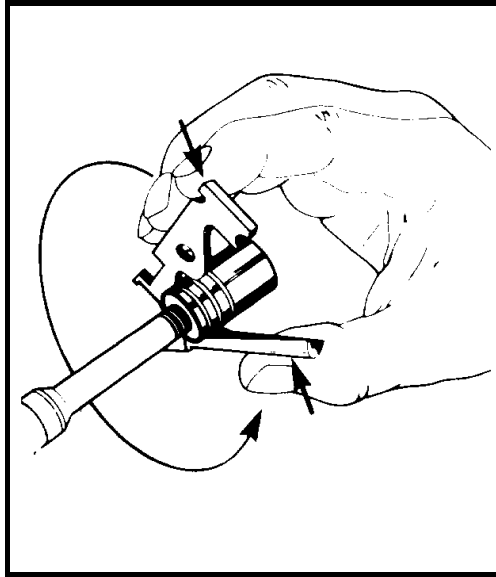

Figure 2-43 Piston Grooves
- (2) Clean the piston head grooves by clamping the scraper around the piston head and rotating (see Figure 2-43).